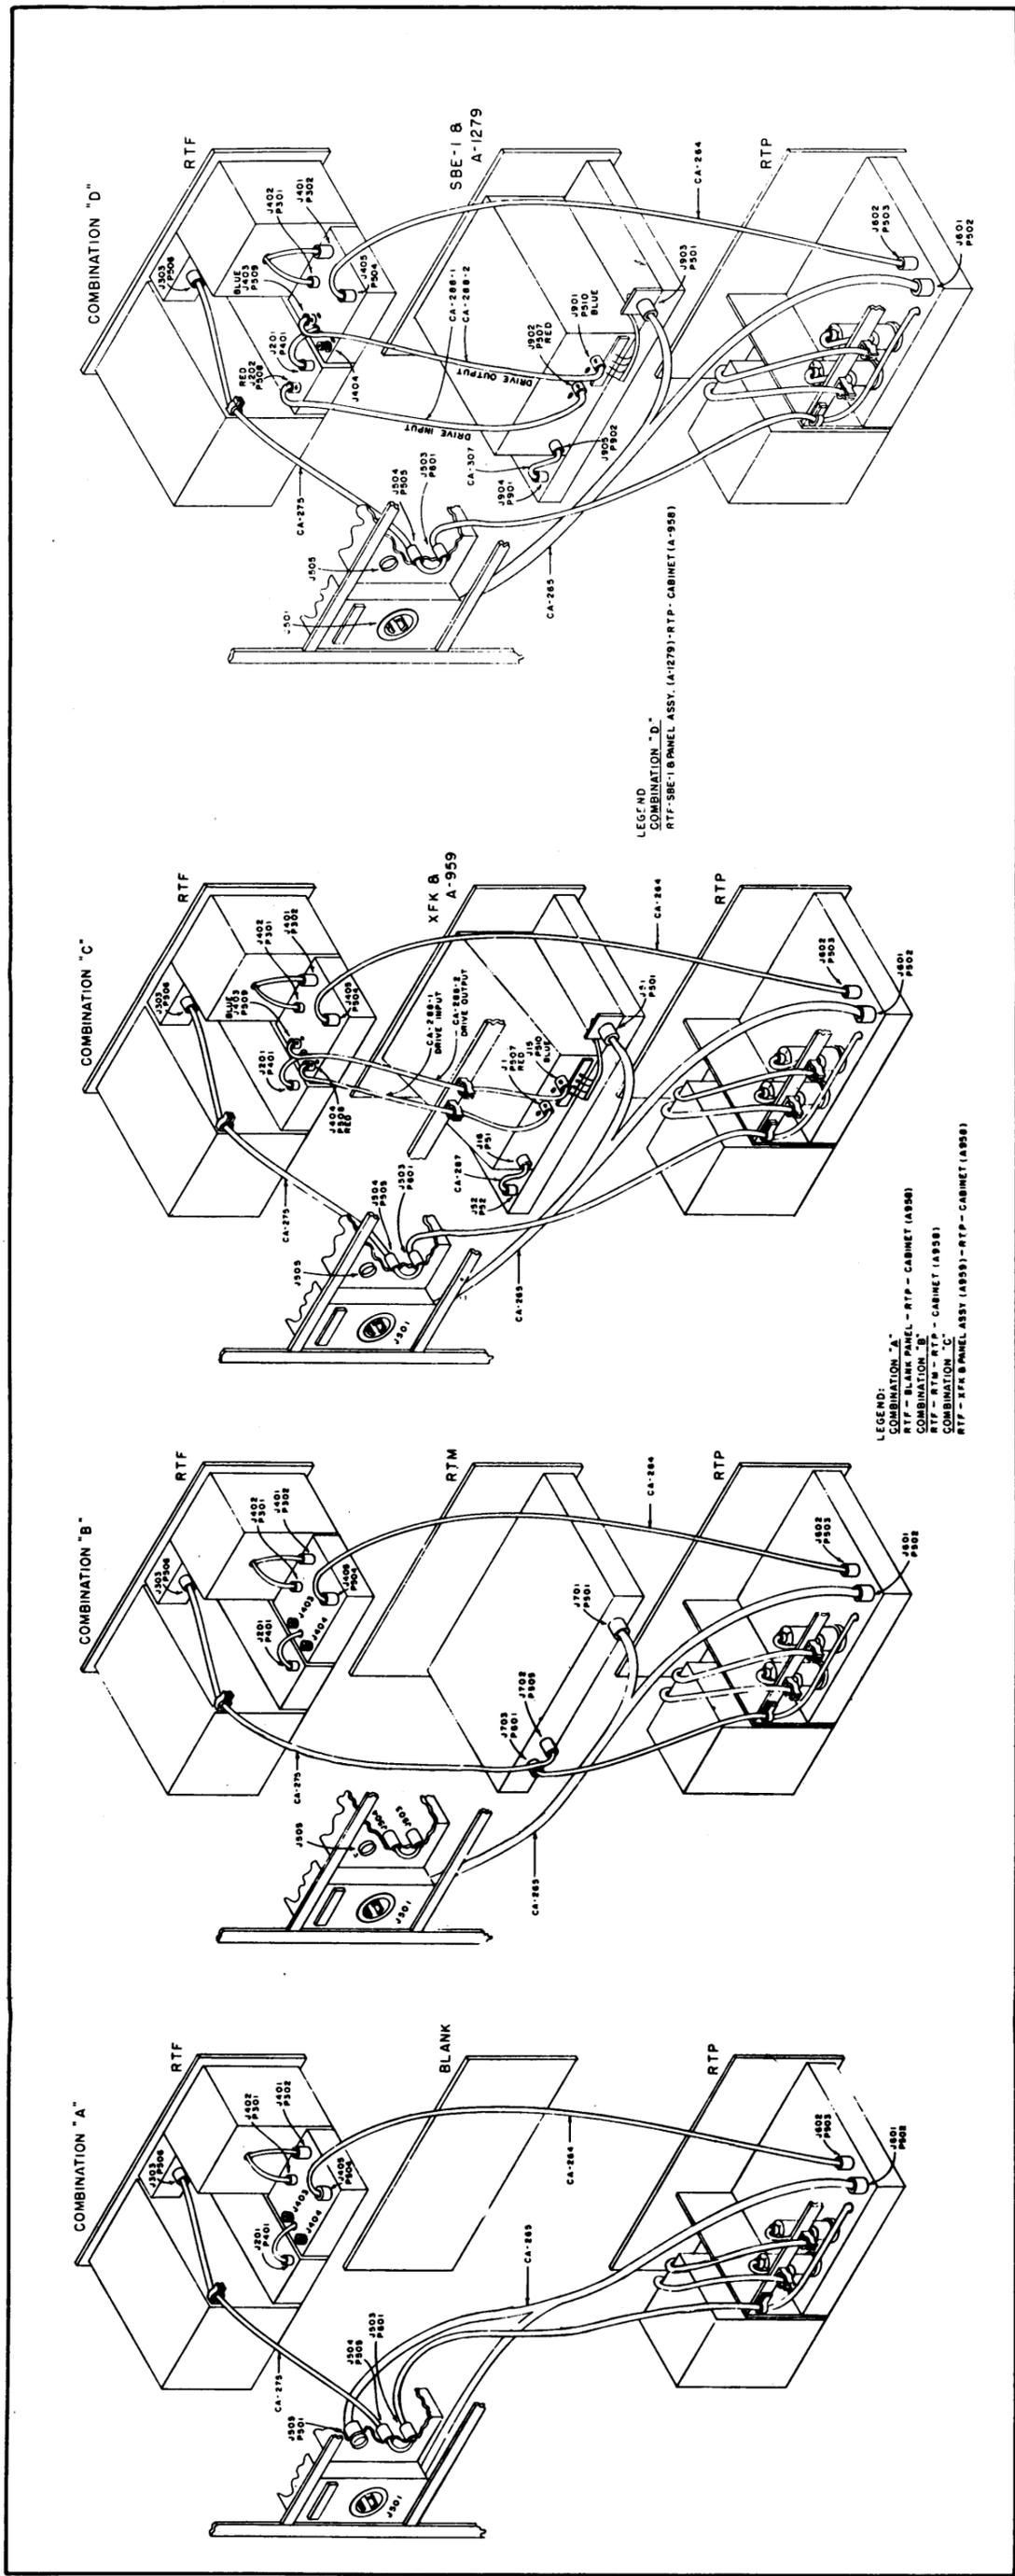

Figure 3-8. Cabling Diagram
WILL BE DISREGARDED AND REFERENCE SHOULD BE MADE TO THE CABLING DIAGRAM, FIGURE 3-8.
B. CW OPERATION (For combinations A, B, C or D, Figure 3-8)